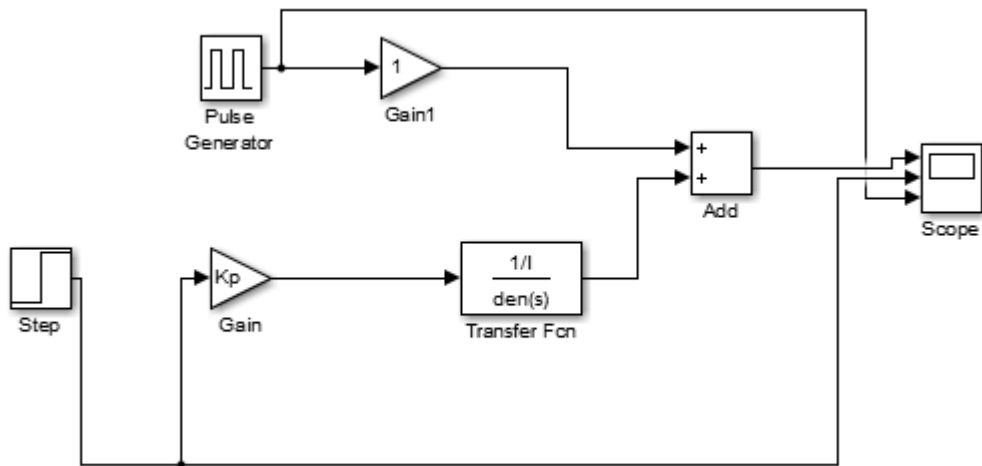

Figure 4
4. For this exercise, we are now going to use Simulink in Matlab. The schematic you are going to create will look something like that shown in Figure 4 below: